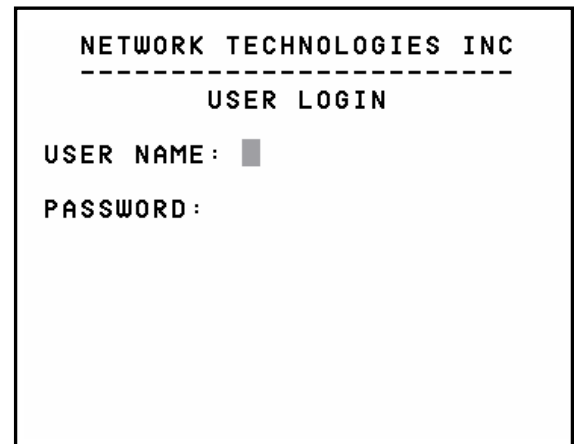

Figure 3- User login screen
**The administrator** will activate security when logging in by typing <Ctrl> + <M> , then <A>, and then <Y>. The administrator will then be prompted for a valid administrator username and password (see Fig. 3).